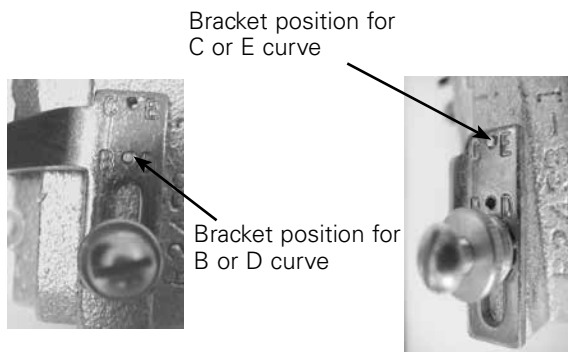

Figure 4. Bracket positions.
2. Index the adjustment bracket so that the bracket hole for the selected curve (B / D or C / E) seats over the pin (Figure 4).